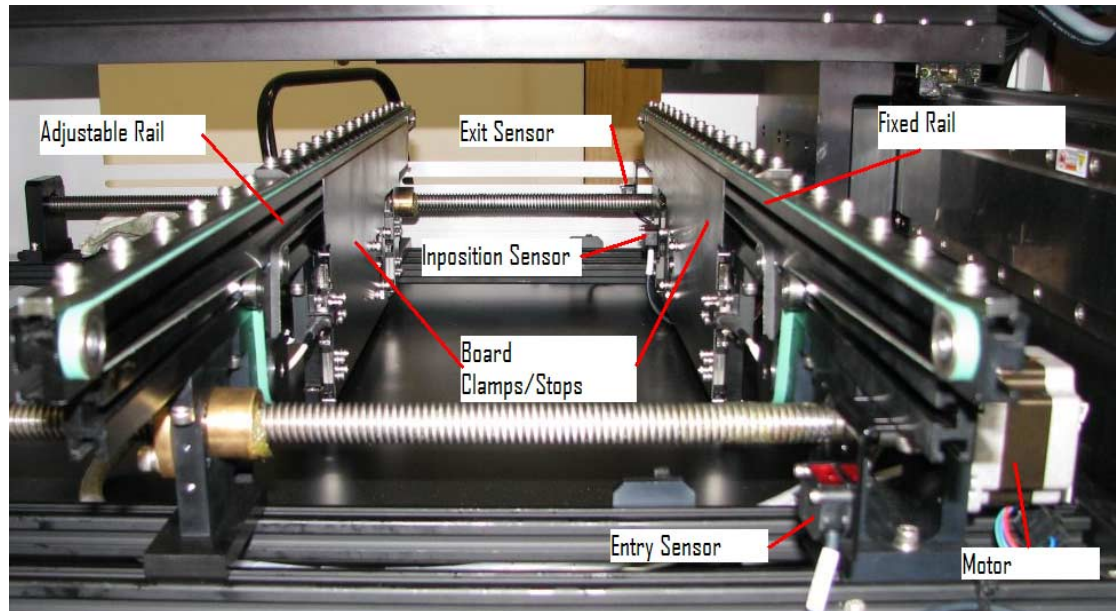

Figure 12-2 Sensors on the conveyor
- Power up the machine. Check the function of the conveyor sensors (see Figure 12-2) by placing a sample board over them. Look at the indicator light on each of the sensors.